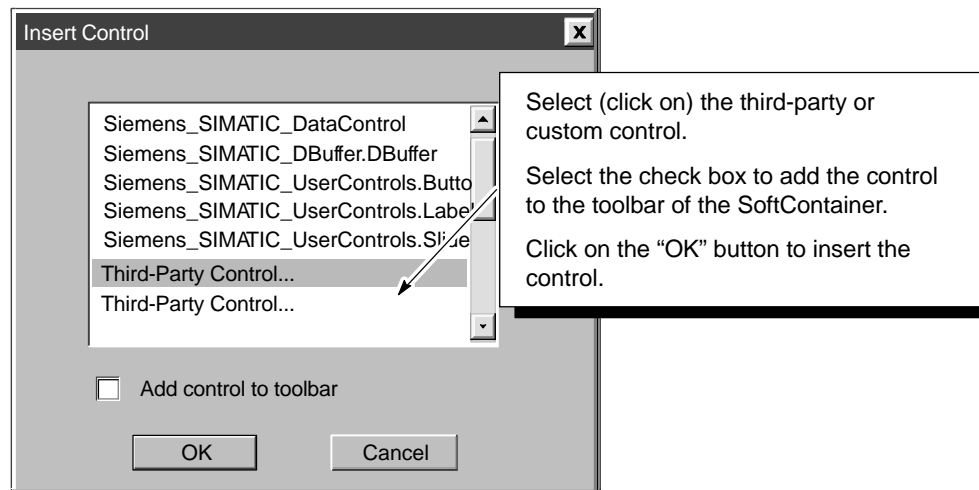

Figure 8-4 Inserting a Third-Party Control into the Process Form
2. As shown in Figure 8-4, select the custom or third party control to be added to the process form. (You can add the control to the toolbar of the SoftContainer by selecting the “Add control to toolbar” check box. This allows you to use the icon in the toolbar for inserting the control into the process form.)